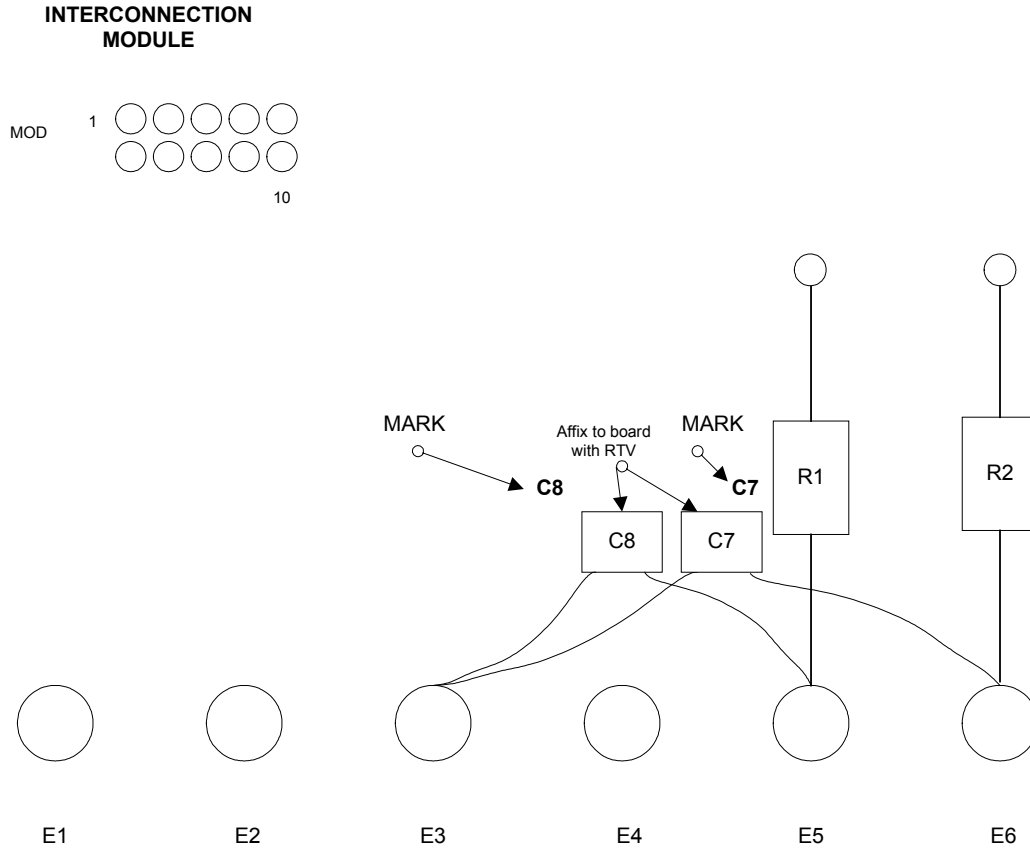

Figure 2. Modification Drawing
h. Using Figure 2, locate E1 thru E6 on the Interconnect Module.